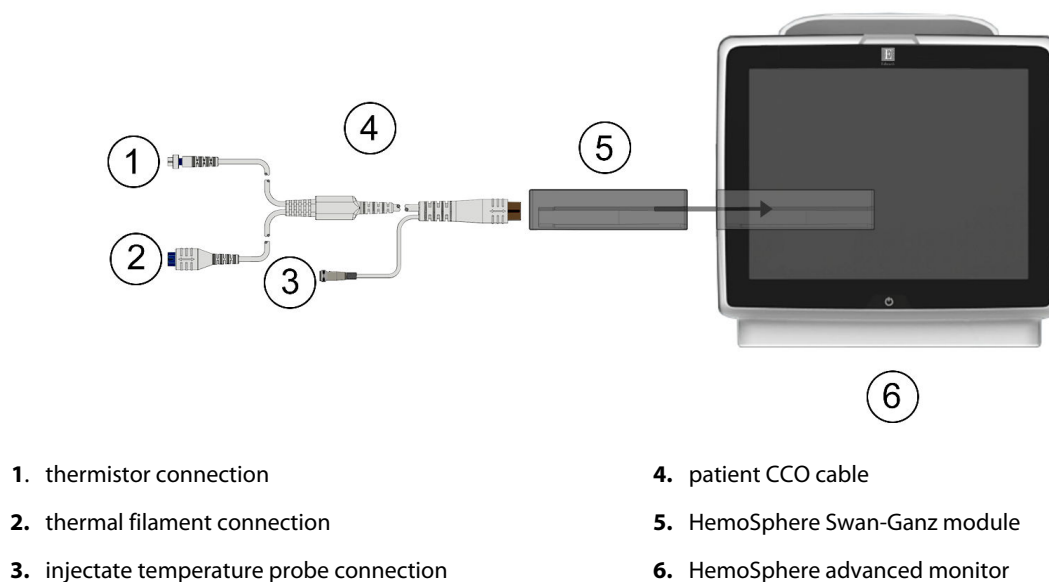

Figure 4-1: HemoSphere Swan-Ganz module monitoring connection overview
Refer to Figure 4-1 on page 75 for HemoSphere Swan-Ganz module monitoring connections.
1. Attach the thermistor (1) and thermal filament (2) Swan-Ganz CCO catheter connections (Figure 4-1 on page 75) to the patient CCO cable.
1. Attach the Swan-Ganz catheter thermistor connection ((1), Figure 4-1 on page 75) to the patient CCO cable.
1. Attach the thermistor (1) and thermal filament (2) Swan-Ganz volumetric catheter connections (Figure 4-1 on page 75) to the patient CCO cable.